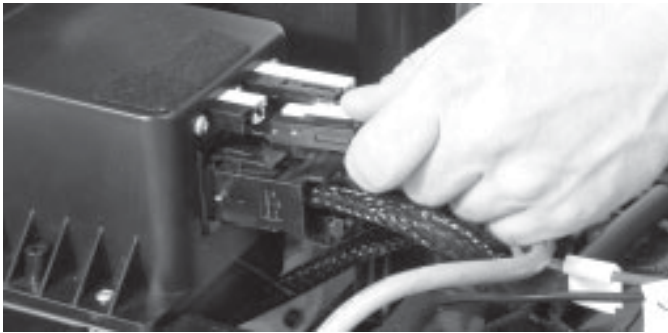

FIGURE 20. DISCONNECTING THE BATTERY HARNESS
6. Unplug both black and white 2-pin battery harnesses. See figure 20.